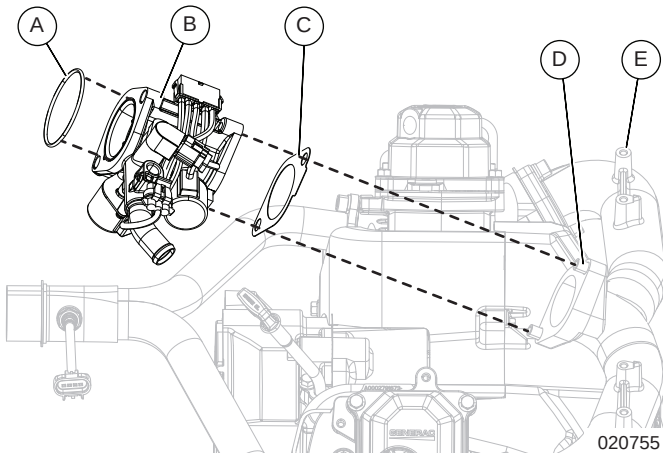

Figure 6-12. Remove Mixer Assembly
1. See Figure 6-12. Remove O-ring (A) from groove on face of mixer (B) where it mates the air box bottom.